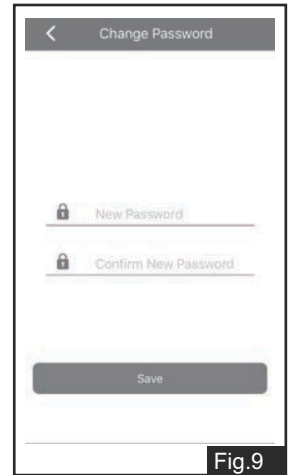

Fig.9
8. Select “OK” to change the light device password and skip to Fig.9.